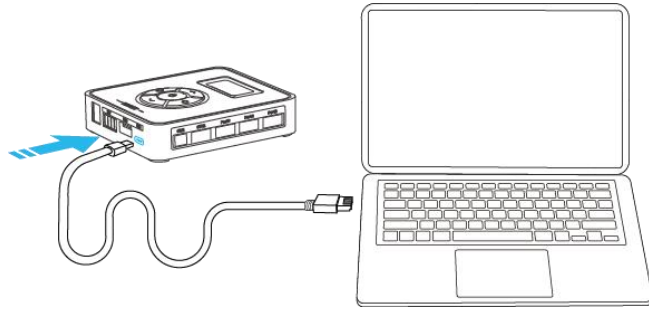

Figure 4.7 Connect device with USB
**Step 1** Connect Magic Box to the USB interface of computer using USB cable, as shown in Figure 4.7.